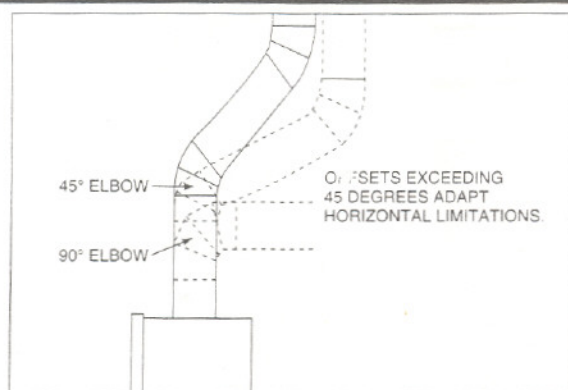

Figure 6
2. **Using Elbows.** Elbows exceeding 45 degrees from the vertical shall be considered horizontal and therefore adapt horizontal run limitations. See Figure 6.